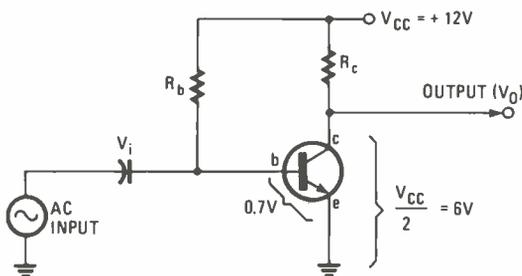
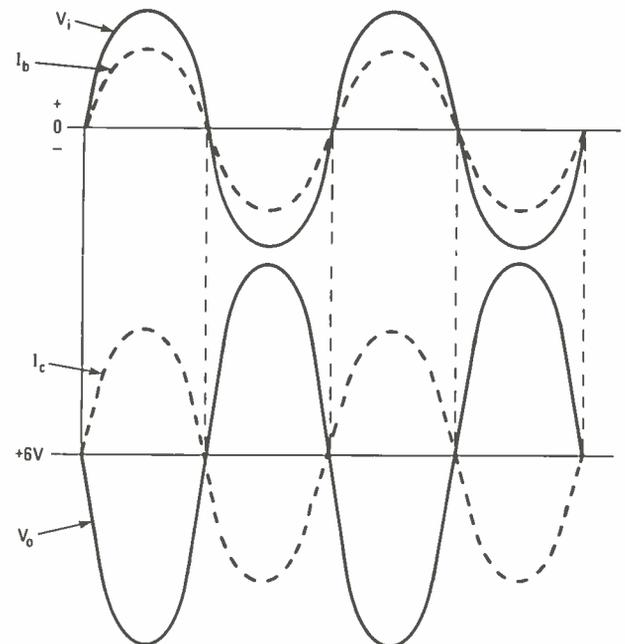
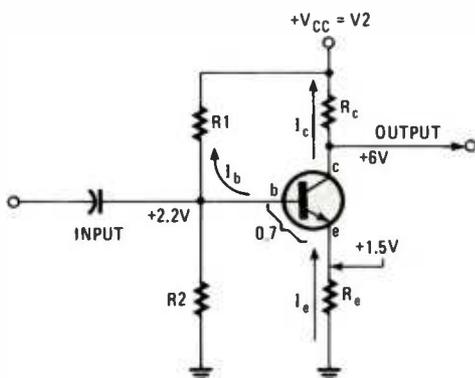

Fig. 2—This is the simplest transistor amplifier circuit.
Fig. 3—These waveforms show the relationship between input voltage, base current, collector current, and the output voltage for the circuit in Fig. 2.
Fig. 4—R1 and R2 form a voltage divider for the base of a basic amplifier. R_e is the emitter resistor, which is actually the effective resistance.
8. The simplest amplifier circuit uses one transistor, as shown in Fig. 2. Resistor R_b biases the emitter-base junction into conduction and base current I_b flows. The DC base voltage is about 0.7 volts with respect to ground. The value of R_b is selected to produce a base current that will set the conduction of the transistor such that about one-half the supply voltage ($+V_{cc}$) is dropped between emitter and collector. The other half of the supply voltage appears across collector resistor R_c , putting $+6$ volts on the collector.
11. (decreases, increase, increases) If the input voltage is an AC sine wave, the base current, collector current, and output voltage all vary in the same way. Figure 3 shows the relationship
The amplifier in Fig. 2 produces an output that is an enlarged but _____ version of the input.
12. (Inverted) The Fig. 2 amplifier illustrates some important principles that apply to all amplifiers. First, the small input voltage simply varies the current in a control device such as a transistor, which is part of a voltage divider. The result is an output voltage that is an enlarged DC version of the input voltage variation. The small input signal is not literally amplified. Instead, the input signal simply controls the resistance of the transistor to create a new and larger signal of the same shape.
14. Refer to Fig. 4, which is a version of the simple circuit shown in Fig. 2. Its operation is basically the same, but the bias is obtained in a different way. First, a voltage divider consisting of
The three bias components in Fig. 4 are _____, _____, and _____.
15. (R_1, R_2, R_e) The Fig. 4 bias method is more reliable and stable than the single base resistor shown in Fig. 2. It is the most widely used method of biasing transistor circuits.
Refer to Fig. 4. Current flow through R_e puts a small positive voltage on the emitter of transistor Q1. The R1-R2 voltage divider puts a larger positive voltage on the base so the emitter-base junction is forward-biased. The voltage between the collector and ground is about one-half the supply voltage so it is more positive than the base. Therefore, the base-collector junction of the NPN transistor is reverse-biased as it should be. Thus the circuit is properly set up for amplification.
The base voltage in Fig. 4 is derived from a _____.
16. (voltage divider) When an AC voltage is applied to the base through capacitor C1, the base current (I_b) varies, which varies the collector current (I_c). If I_b increases, I_c increases and vice versa. If I_c increases, the resistance between emitter and collector decreases. Therefore, the output collector voltage decreases. In this respect, this circuit is similar in operation to the circuit in Fig. 2. The waveforms in Fig. 3 apply.
19. (bias stability, reduced distortion) The gain of the circuit in Fig. 4 is approximately equal to the ratio of the collector resistor (R_c) to the emitter resistor (R_e).
23. (gain) We indicated earlier that the bias arrangement shown in Figs. 4 and 6 is the most widely used because of its stability. However, you will see other bias arrangements. Two of those variations are shown in Fig. 7. In Figure 7A, one of the bias voltage divider resistors (R_1) is connected to the collector rather
The arrangement in Fig. 7A has _____ (higher/lower) gain than the circuit in Fig. 4.